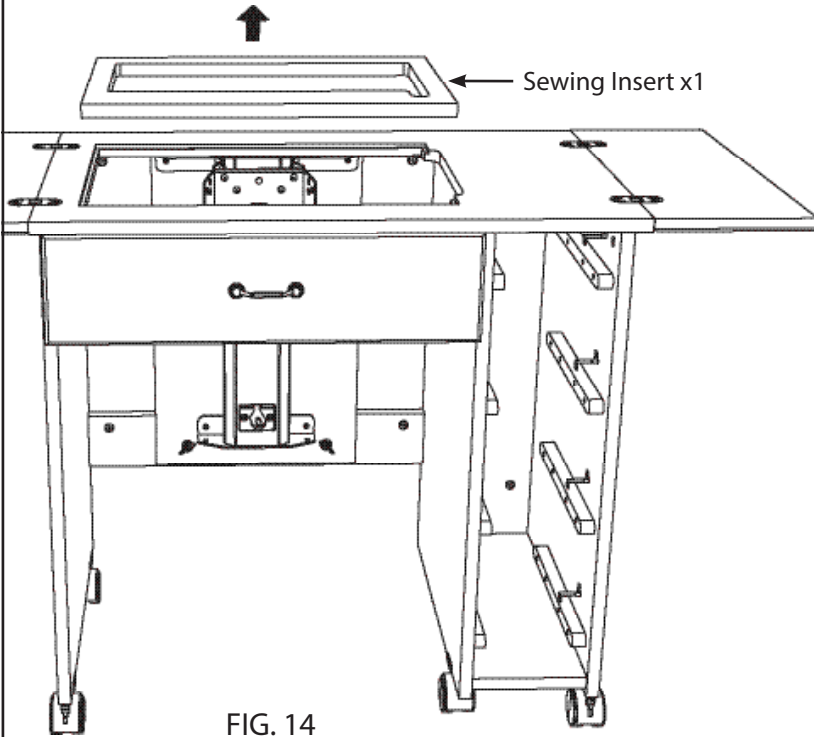

FIG. 14
Step 14. Remove Universal Insert from inside the top as shown in FIG. 14.